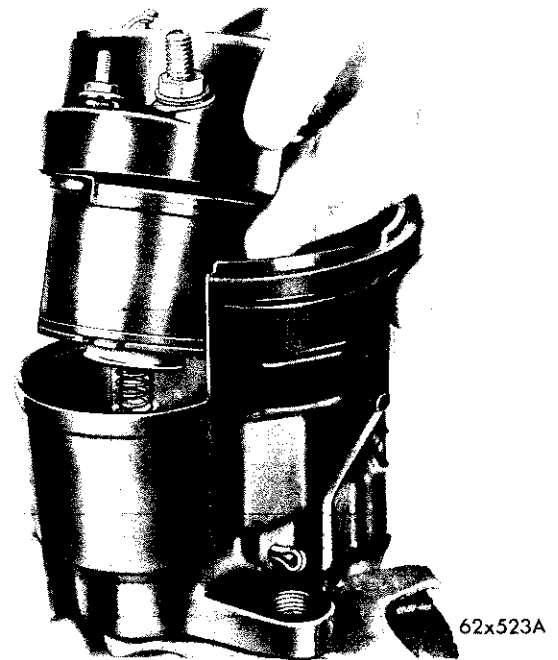

Fig. 23—Installing the Solenoid and Brush Holder into the Gear Housing
(15) Carefully enter the solenoid coil and brush plate assembly into the bore of the gear housing and position the brush plate assembly into the starter gear housing. Align the tongue of the ground terminal with the notch in the brush holder (Fig. 23).